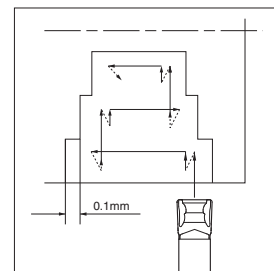

Fig.3
- 1) When widening the groove width (Refer to Fig. 3), apply the "Step Turning."